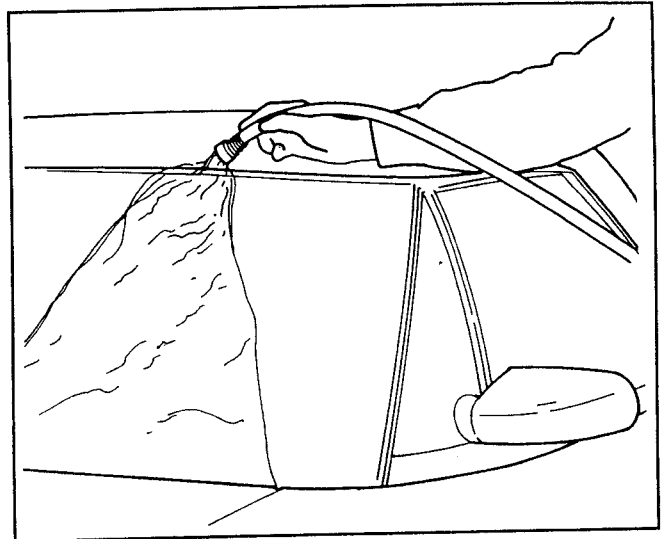

Figure 29. Work Across Windshield Header
3. If the leak is across the windshield header, slowly run water along the header from one side to the other to identify the leak source (Fig. 29).